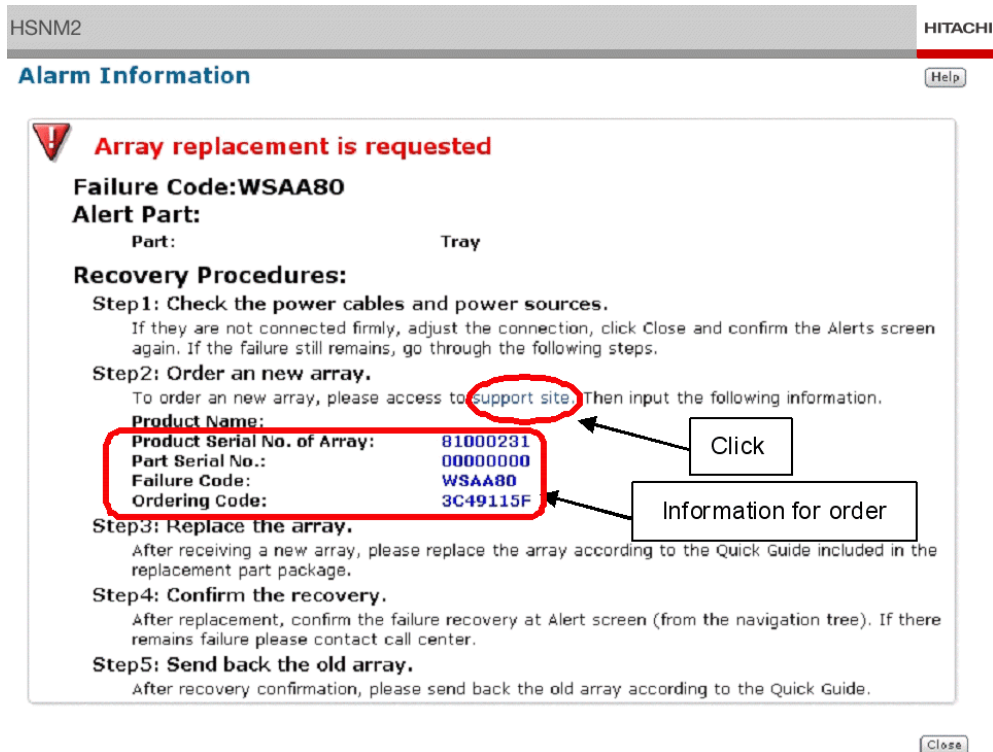

Figure 8-5: Example of an Alarm Information Window
7. If an entry appears in the failure parts list window, click **Show Details** in the lower right corner of the screen for detailed information (see Figure 8-5). To remove the information, click **Close**.